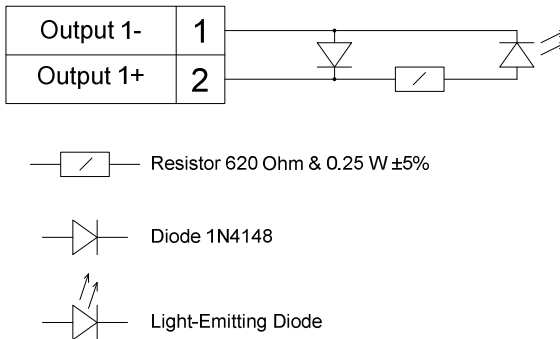

Figure 5. The schematic of a Discharge Circuit Simulator
5.3.6 Connect discharge circuit simulators to the outputs as shown in Figure 5.